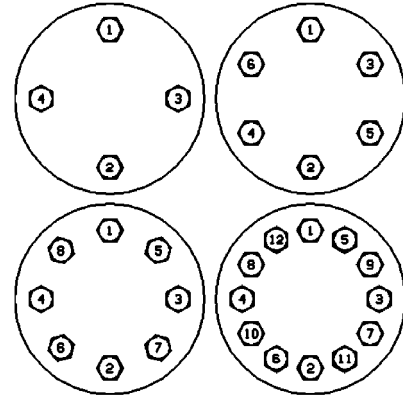

Figure 7: Torque Sequence
1. Grease the threads of the valve body studs (6) and the bearing surfaces of the body nuts (7).
2. Assemble the body nuts (7) onto the body studs (6) manually, and hand tighten evenly so that the internal parts are held in place. The face of the bonnet or bonnet flange should be parallel to the top surface of the valve body.
3. Tighten the body nuts (7) evenly by applying the torque in the increments and the sequences as defined in Table 2 and Figure 7.